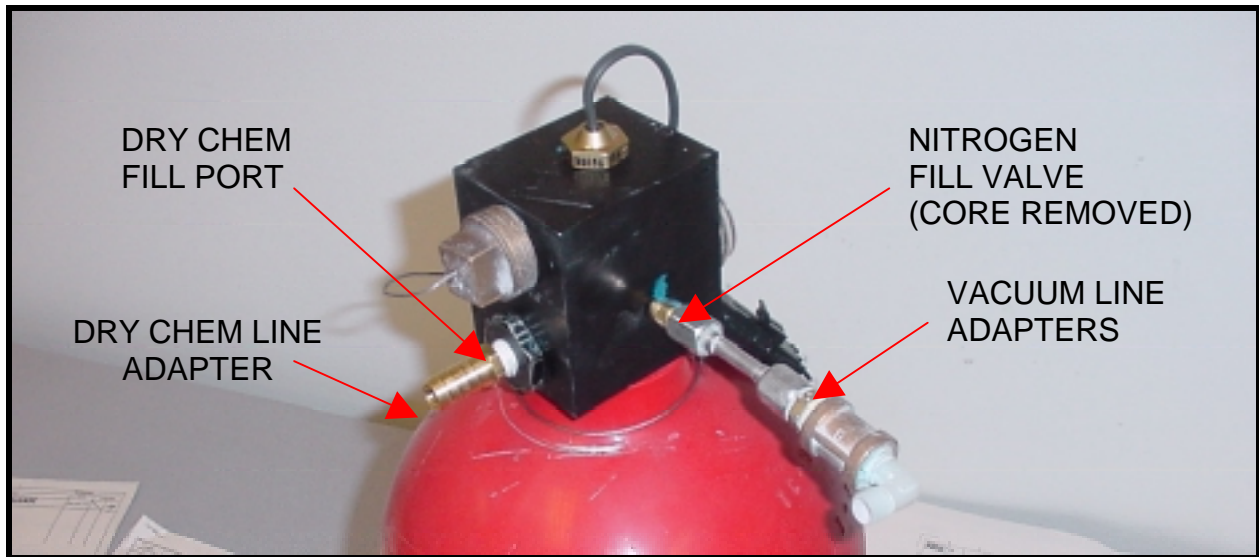

Figure 5. Dry Chemical Fill Adapter Fittings
2. Remove fill plug (hex head) and place dry chemical fill adapter 421028 into the fill port. (The adapter can be made by combining a 3/8 inch hose barb with an extra fill plug.) See Figure 5.